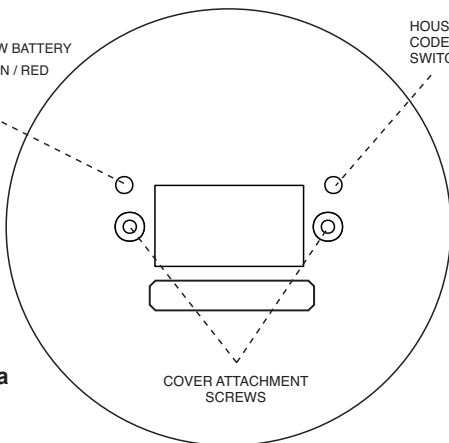

Figure 1a
13. Press and hold the House Code switch through the hole in the cover using a small screwdriver, see figure 1a, until